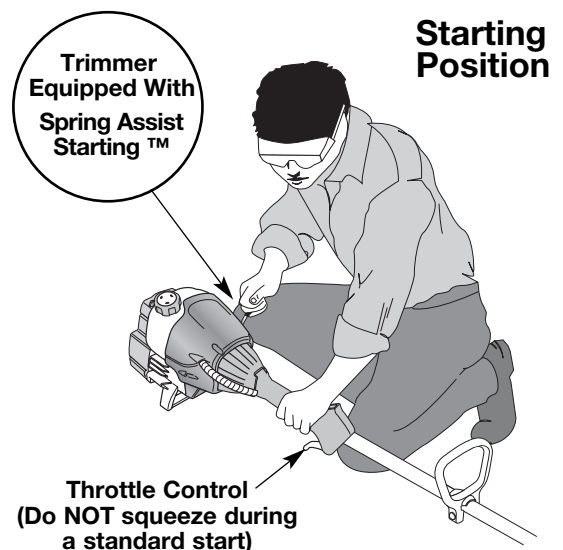

Fig. 8
WARNING: Avoid accidental starting. Make sure you are in the starting position when pulling the starter rope (Fig. 8). To avoid serious injury, the operator and unit must be in a stable position while starting.
4. Crouch in the starting position and **do not squeeze the throttle control** (Fig. 8). Pull the starter rope out with a **controlled and steady motion** until the engine starts.